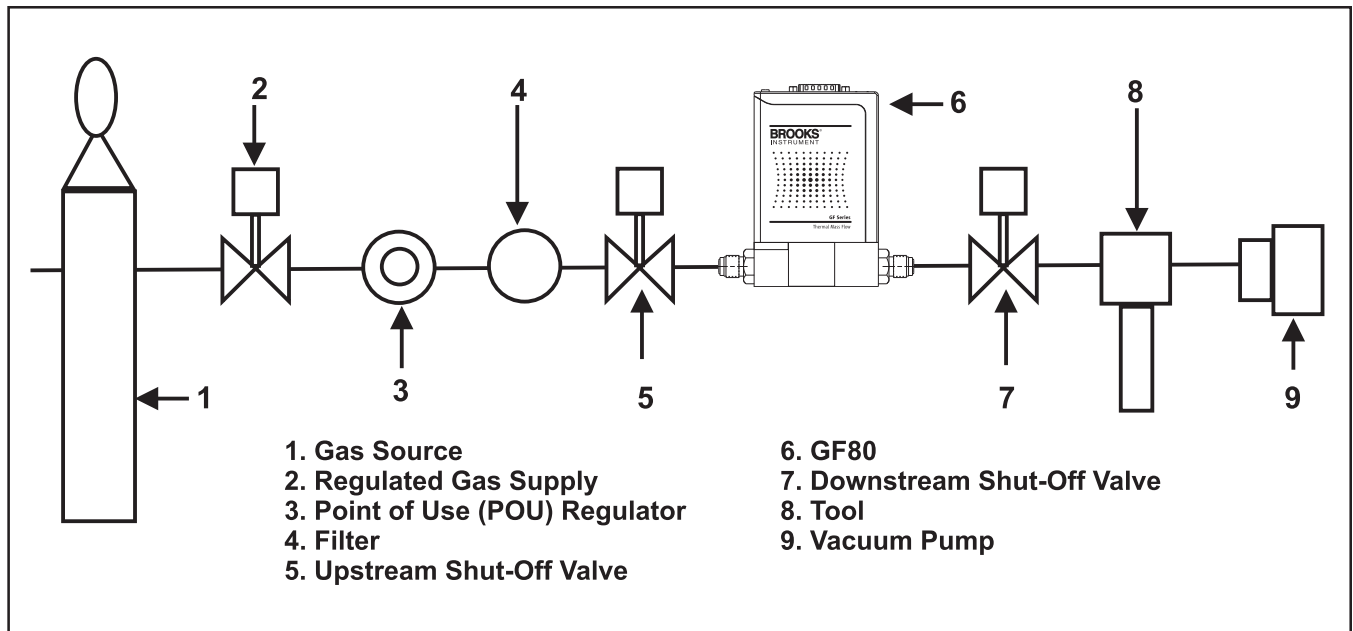

Figure 2-1 Typical Gas Supply Arrangement
Typical gas supply arrangements are shown in Figure 2-1. GF80s/GF81s are often arranged inside a gas panel. Configure standard configurations or "blanks" for a variety of pure gases and mixtures. As a result, MultiFlo technology enables the user to reduce unique inventory requirements.
For additional safety, it is recommended to close the two valves between the charged gas line and the GF80/GF81 Series to be installed. See Figure 2-1 for more details.
3. Refer to Figure 2-1. Open the upstream shut-off valve (5) and close the downstream shut-off valve (7). This eliminates a pressure drop across the GF80/GF81 Series and subsequent leakage from the PID control valve inside the GF80/GF81 Series.
5. Refer to Figure 2-1. Close the upstream shut-off valve (5) to prevent any pressure effects from the regulator (3).